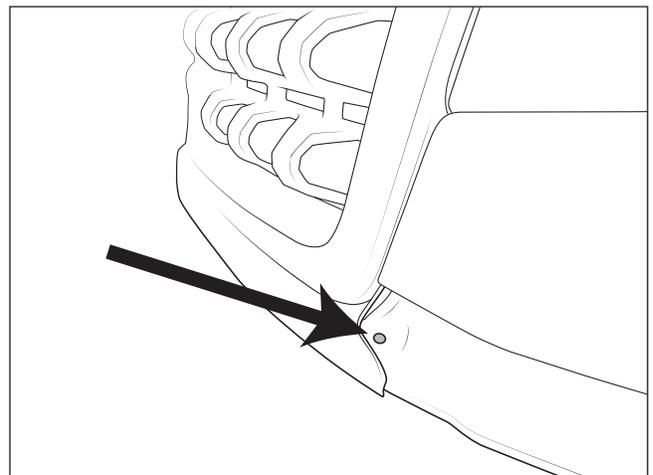

Figure 8
G. Install supplied flathead screws into the grill through the filler panel (fig. 8).